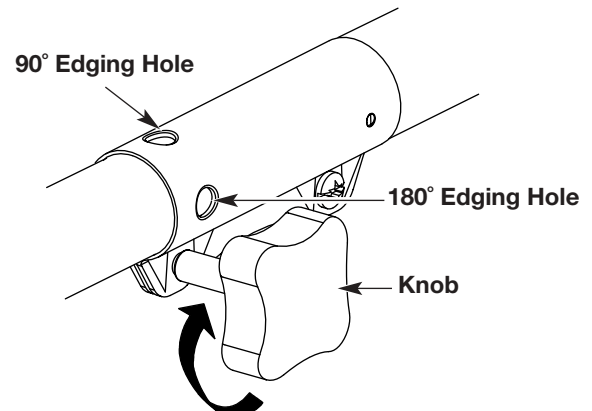

Fig. 8
3. Turn the knob clockwise to tighten (Fig. 8).
For edging when using the line head cutting attachment with EZ-Link™ models, lock the release button of the cutting attachment into the **90° edging hole** or the **180° edging hole**(Fig. 8).